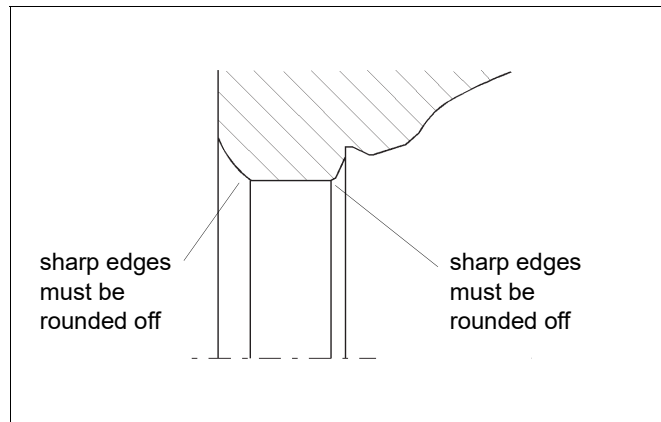
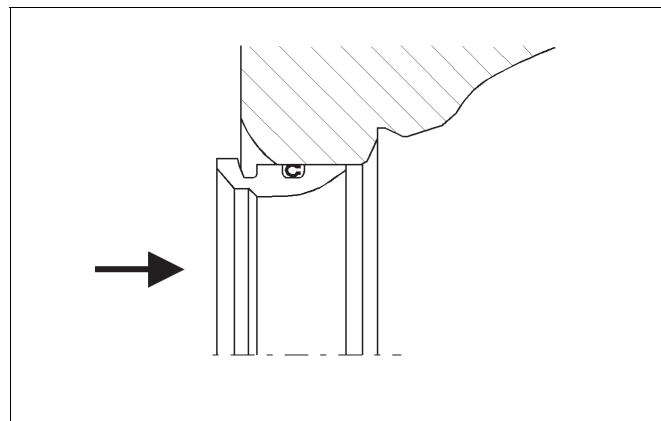

Fig. 24 Rounding the sharp edges
Fig. 25 Precompression of the lip seal
- Clean the flow port that houses the seat. Remove any burrs. Round off the edges using a fine abrasive paper and clean the flow port carefully, see Fig. 24. Place the back seal (6) onto the seat (4).
- Lubricate the flow port, seat (4) and back seal (6) and the lock spring (5) with a volatile lubricant, e.g. Hyprez. Make sure that the lubricants are compatible with the medium.
- **Only for a lip seal:** Push the seal carefully into the flow port for about 15 minutes, Fig. 25. The following work phases must be completed before the precompression is lost.